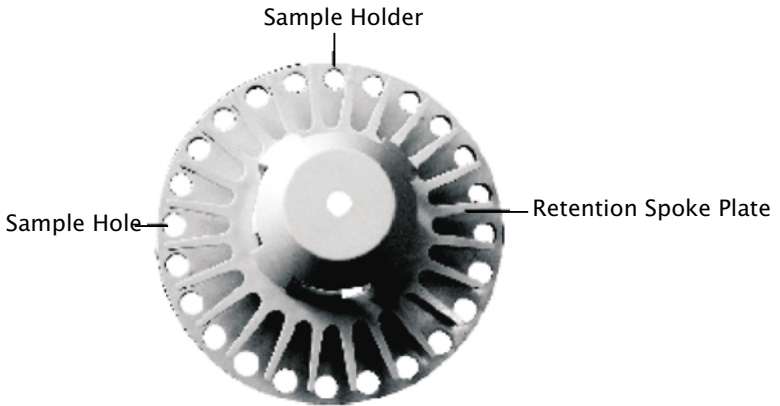

Fig. 5
- Slightly uplift the spoke plate and rotate clockwise so that retention spokes move away from holes to leave them open for loading (Ref. Fig. 5).